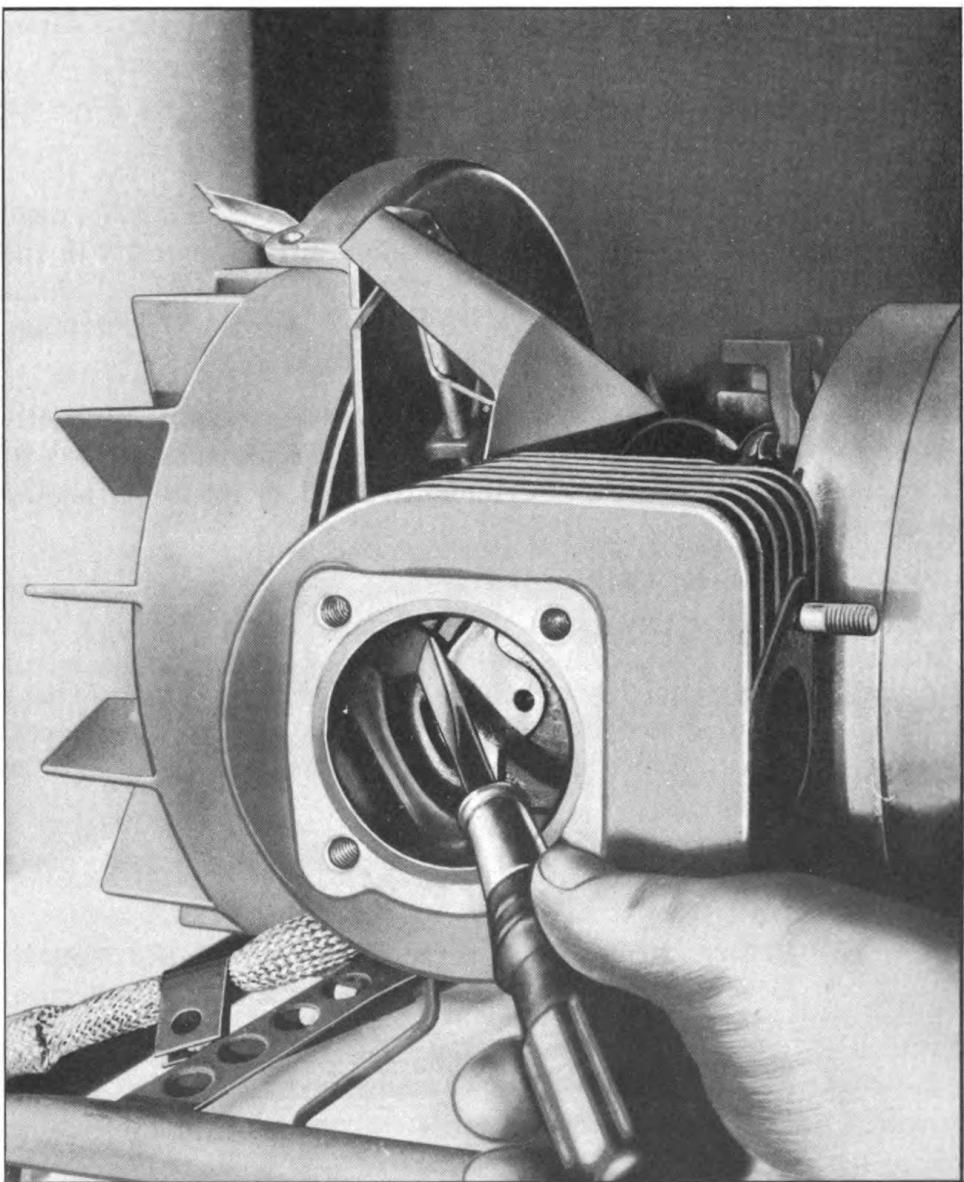

FIG. 14—CAREON REMOVAL—INTAKE PORTS
- (1) Remove the fan housing (1).
- (2) Remove cylinder head (97).
- (3) Scrape off carbon and lead deposits from cylinder head, inside of cylinder and top of piston. A screw driver, knife or other similar instrument should be used.
- (4) Remove carbon and lead deposits from intake ports with screw driver (See Fig. 14, Page 29).
- (5) Before reassembling the cylinder head make sure all loose particles of carbon and lead are removed from the engine.